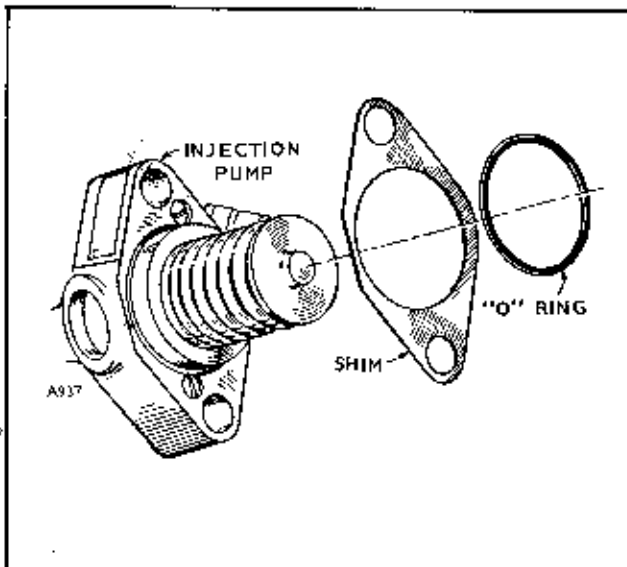

FIGURE 3-16. SHIMMING THE PILOT
1. Slide shim or shims (using proper thickness of shims for correct timing) over pilot until they are flat on pump flange. See Figure 3-16.